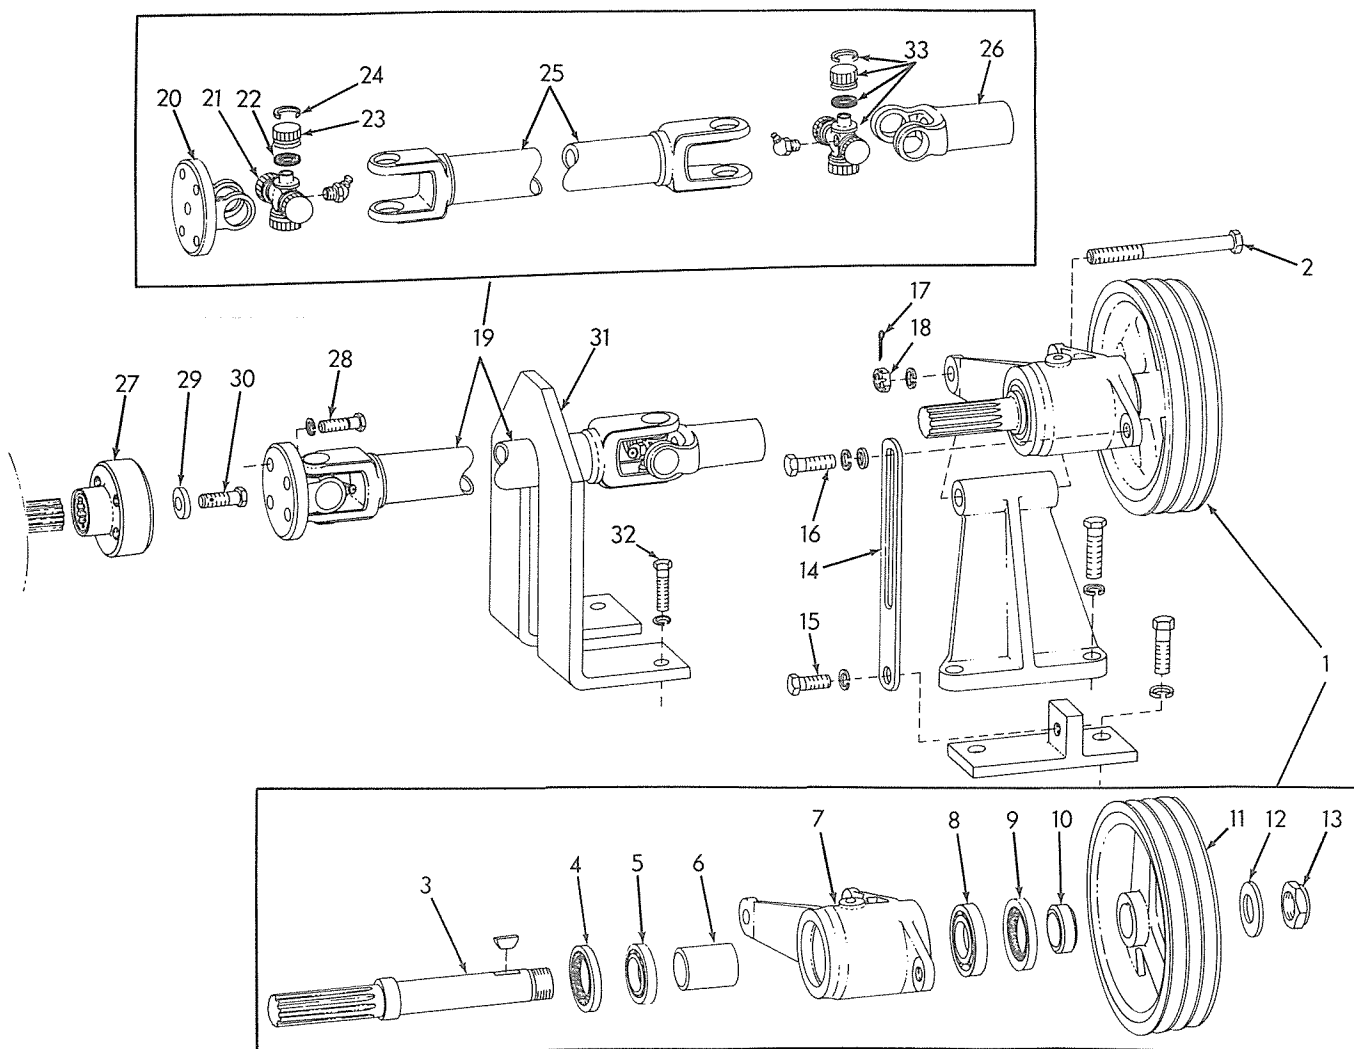

Fig. 11C—Fan Drive
(14) with woodruff key in keyway. Install plain washer (5) and nut (4). Torque nut to 250 - 280 lbs. ft.
F. FAN DRIVE REMOVAL, DISASSEMBLY, INSPECTION, ASSEMBLY, AND INSTALLATION (FIG. 11C)
3. Loosen capscrew (15) and remove capscrew (16).
4. Remove cotter key (17) nut (18) and capscrew (2).
5. Lift fan drive assembly (1) off bracket and fan belts.
6. To remove fan drive shaft assembly (19), remove restricting angle (31) and left front floor plate.
7. Unbolt front end yoke (20) from coupling flange (27). Remove shaft assembly (19) rearward from tractor.
8. Remove nut (13) washer (12) and pulley (11) from shaft (3). Remove woodruff key and pulley spacer (10).
9. Place assembly, with threaded end of shaft up, in suitable press. Press out the shaft (3), seal (4) and spacer (6).
10. Remove bearing (5) from shaft (3).